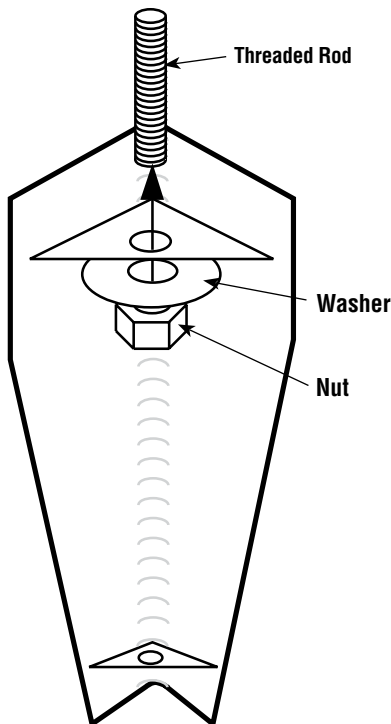

Figure 2
2. Mount all four legs as shown in **Figure 2**.